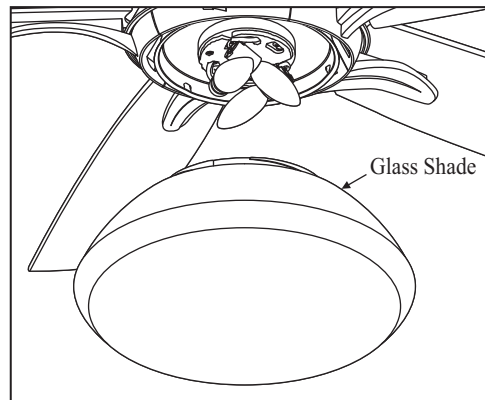

Figure 23
5. Raise glass shade up against the light kit and secure it to fan by turning glass clockwise until snug. DO NOT OVERTIGHTEN. (Fig. 23)